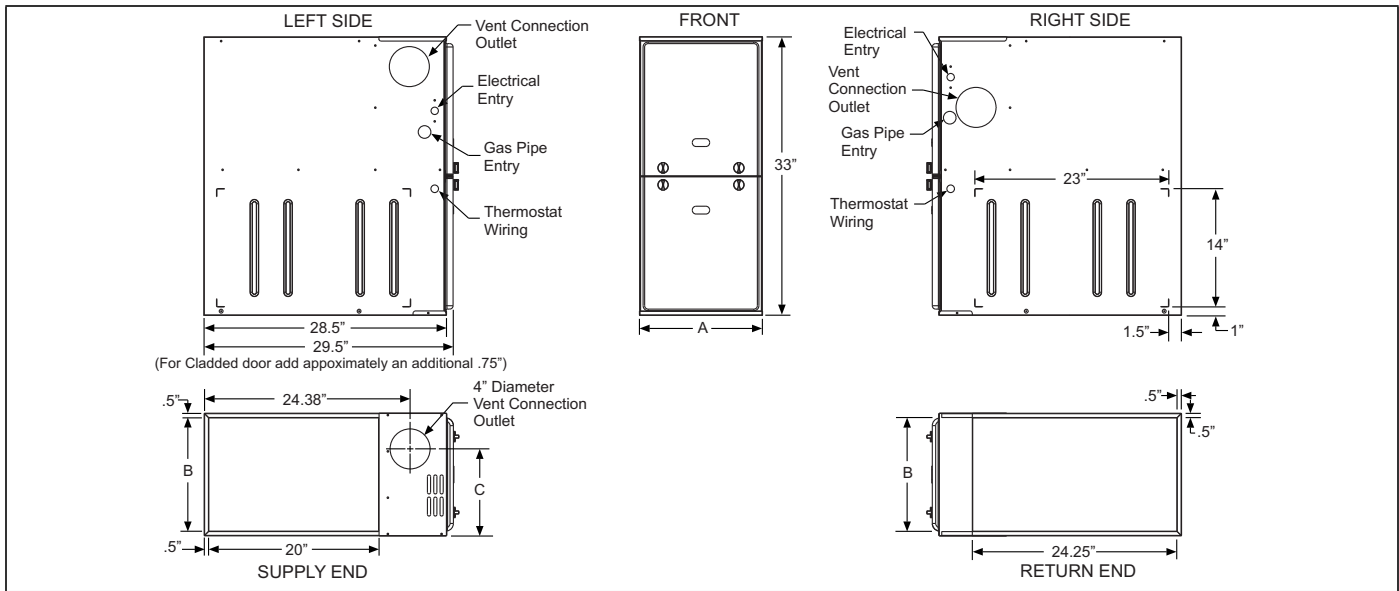

FIGURE 8: Dimensions
*Some accessories such as electronic air cleaners and pleated media may require a larger side opening. Follow the instructions supplied with that accessory for side opening requirements. **Do not** cut the opening larger than the dimensions shown in Figure 8.*
Gas piping may be connected from either side of the furnace using any of the gas pipe entry knockouts on both sides of the furnace. Refer to Figures 8 and 11.